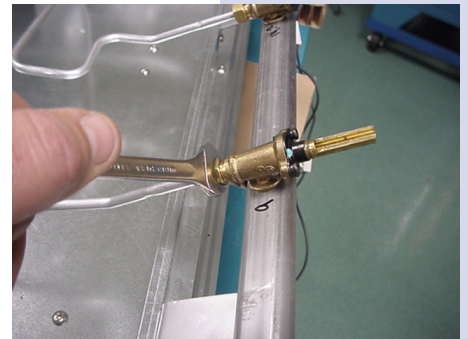

Figure 13
- 4. With a nutdriver, remove the screw that fix the valve to the tube. (Figure 13)